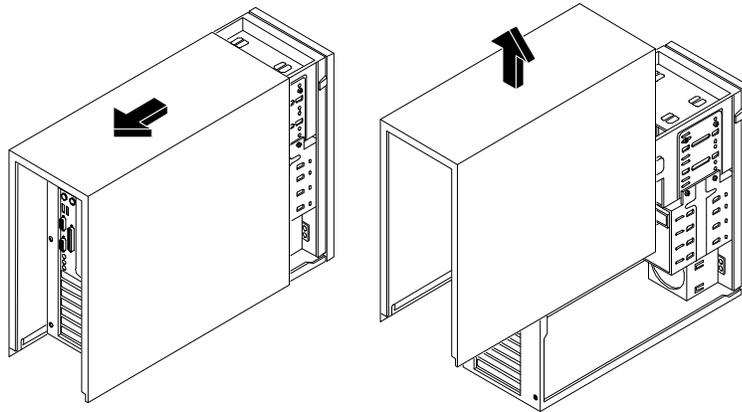

Figure 3-2. Removing the Cover
4. Remove the NetServer cover. Place your hands near the bottom front of the cover, one along each side. Pull the cover slightly back to release it and then lift up and off the chassis (see Figure 3-2).